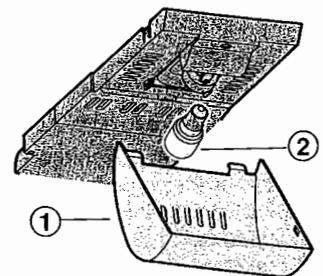

Fig. 11
- ▶ Take holder of the cover Fig. 11 (1) at the front and unhook it at the back.
- ▶ Change the bulb Fig. 11 (2).
- ▶ Put the cover Fig. 11 (1) back in place.